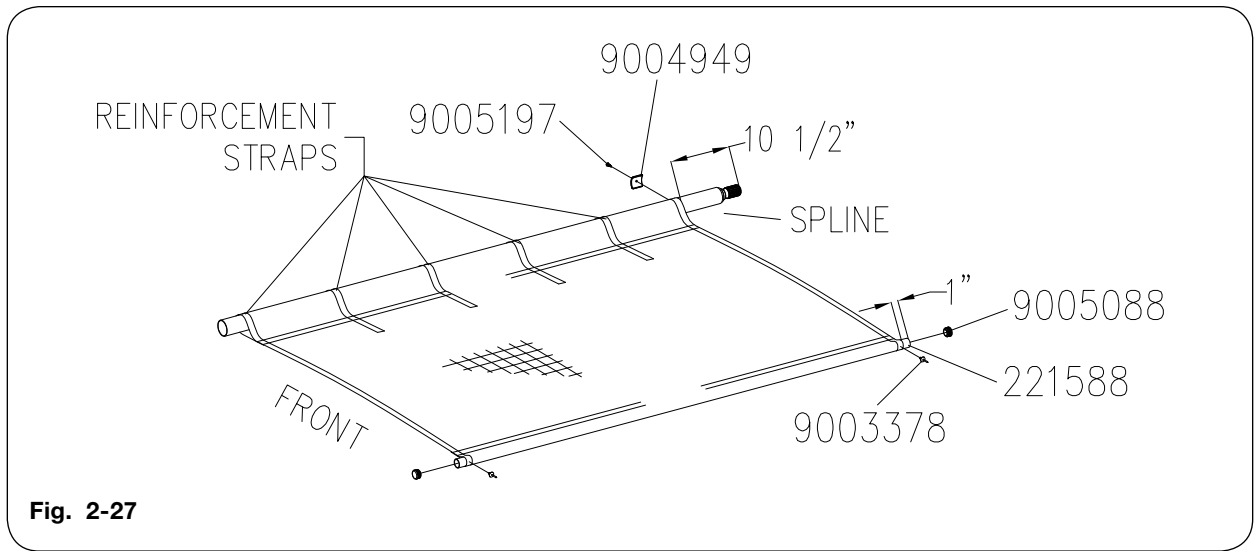

Fig. 2-27
9. Insert the small 1 1/8" fixed tube weldment by sliding it into the small pocket of the tarp. Leave 1" of the tube sticking out one end and drill a 3/16" hole through the center of the outer reinforcement strap and tube. Fasten with a rivet (9003378). At the other end, pull on the tarp by hand to stretch it until there is 1" of tube sticking out. Drill hole and install rivet. Press the 1 1/8" plugs (9005088) into each end of the tube. See Fig. 2-27.
10. Insert the 2" roll tube into the large pocket, with the splined shaft to the rear. Measure 10 1/2" from the end of the spline to the start of the tarp. Install the first U-clamp (9004949) and self-drilling screws (9005197) to the first reinforcement strap, to secure the tarp to the tube. Work down the roll tube putting the U-clamps and self-drilling screws on each reinforcement strap. Make sure to keep the tarp pulled tight to reduce wrinkling. See Fig. 2-27.